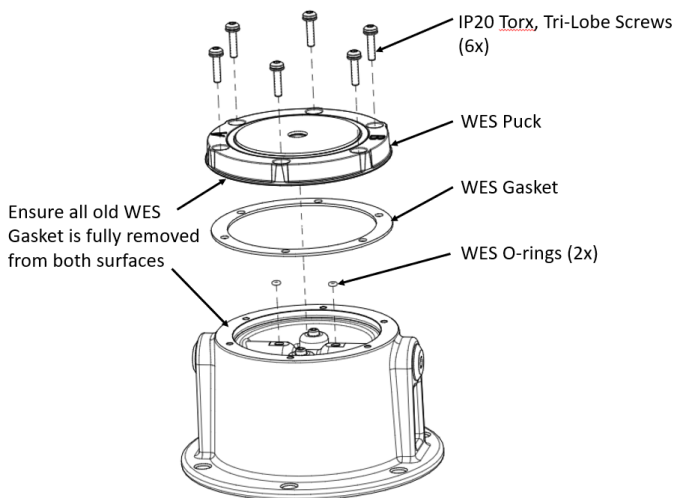

Figure 26: Hubcap WES components replacement
### WES Replacement (Figure 26)
**NOTE:** "A" and "B" ports shown in Figure 26 are important for proper tire location tracing on the TIREMAAX TPMS SENSOR system. It is recommended for consistency that port "A" is used for the outer tire in a dual tire scenario, or is the port used in a super single scenario.
Any old gasket remanence must be carefully removed from the top hub surface. Ensure not to scratch or mar this surface in the removal process. This is all important to ensure new hubcap and gasket seal adequately. Refer to Figure 26 on page 16.